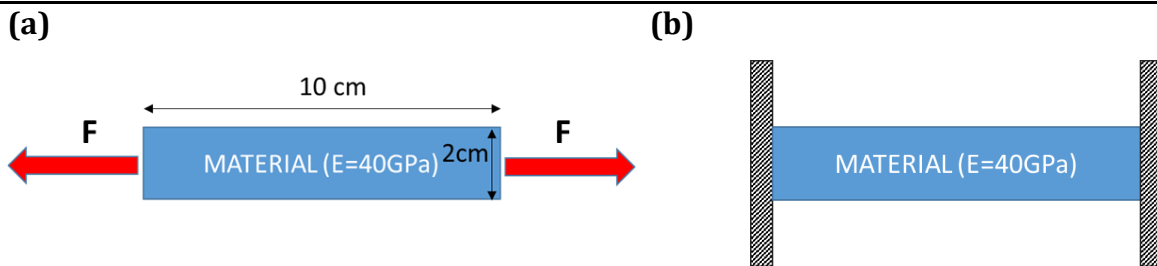

Figure 3b.1 | (a) Loaded bar, (b) Clamped bar.
Consider the squared cross-section axial bar of Figure 3b.1. The thermal expansion coefficients of the material is  $10 \cdot 10^{-6} K^{-1}$  and its Young modulus is 40 GPa. The initial temperature is room temperature (25°C). The tensile load is 480 N.
- We put the bar in a 500°C furnace (Figure 3b.1.a).
- Still in the furnace, we clamp the bar on its longitudinal ends (Figure 3b.1.b) and, from the furnace, put it in liquid Nitrogen (-200°C).